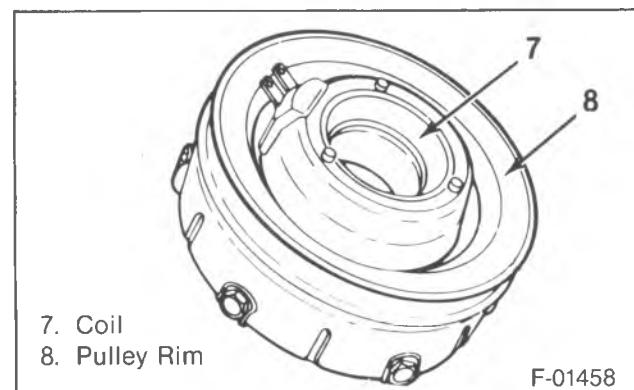

Figure 15—Clutch Coil, Pulley Rim, Rotor and Bearing Assembly
- Clutch (7), pulley rim (8), clutch rotor (5) and bearing (6) (figure 15).